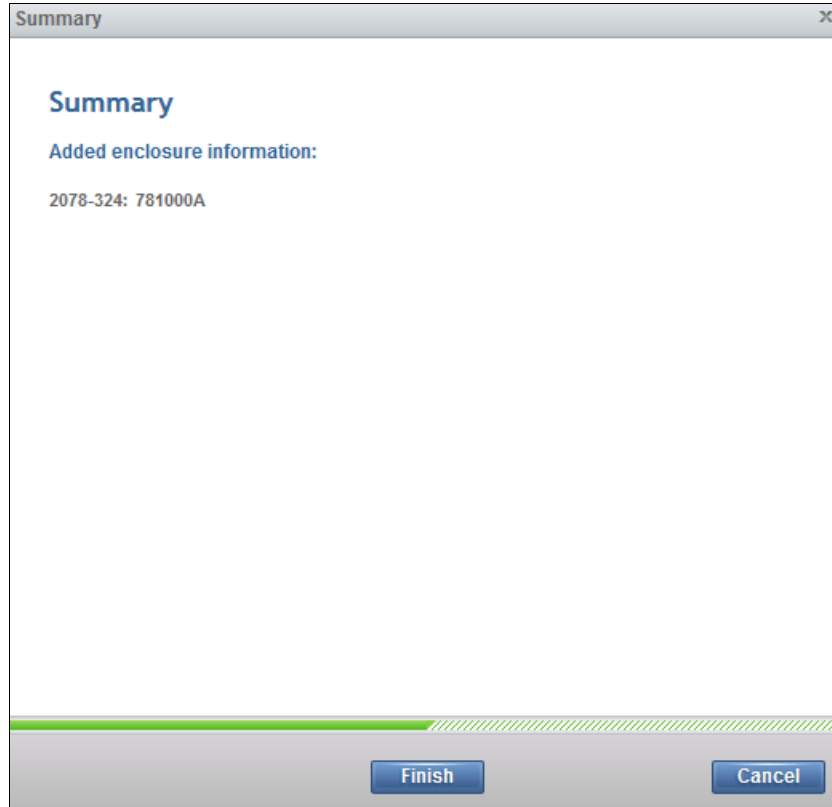

Figure 2-43 Added enclosure summary
3. The new control enclosure is added to the system, as shown in Figure 2-43. Click **Finish** to complete the operation.